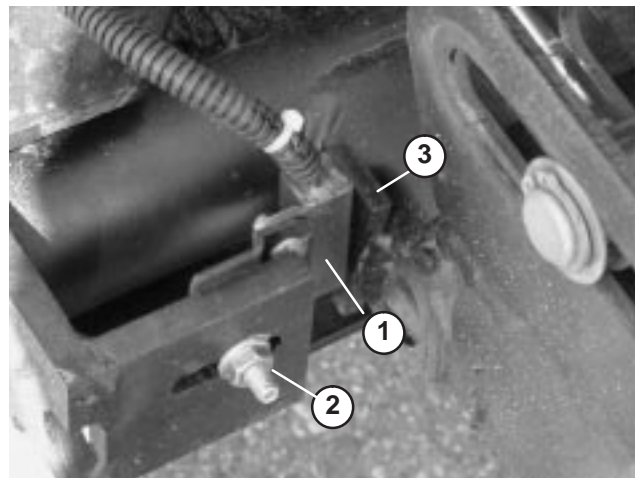

Figure 10
- Loosen the carriage bolt nut securing the lift arm switch bracket to the #4, 6 or 7 lift arms (Fig. 10). #4 shown in figure.